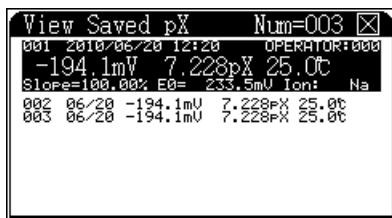

Figure 36 Viewing saved pX data
- 2 Navigate to **View Saved pX** as shown in **Figure 36**. The upper area displays the current viewing mode and actual stored amount.